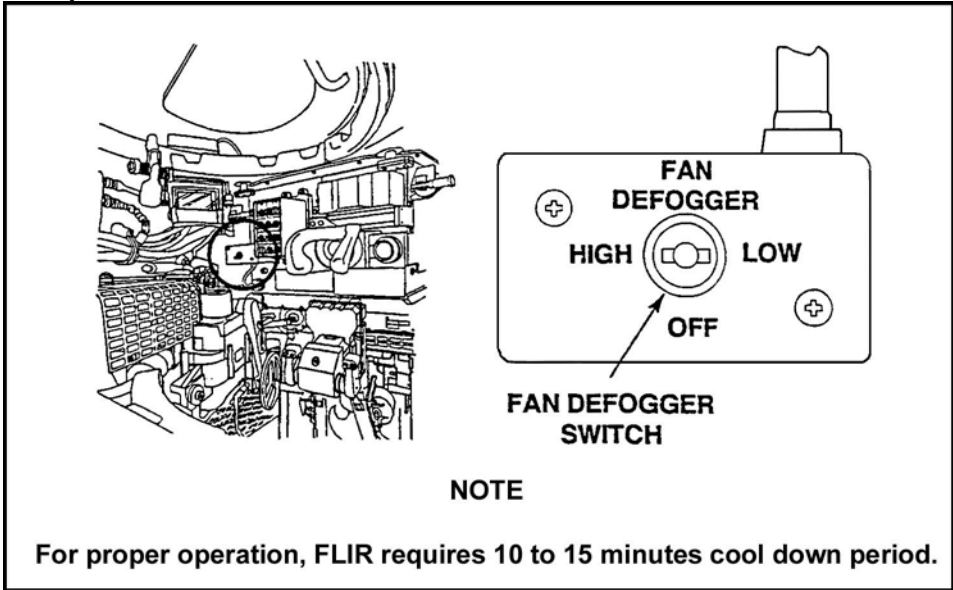

Figure 17. Defogger fan switch.
- ( d ) In the power mode, dry cycle the 25mm gun twice in high explosive (HE) and twice in armor piercing (AP).
- (7) During normal operating conditions, ensure the IBAS defogger fan switch is in the OFF position (Figure 17).